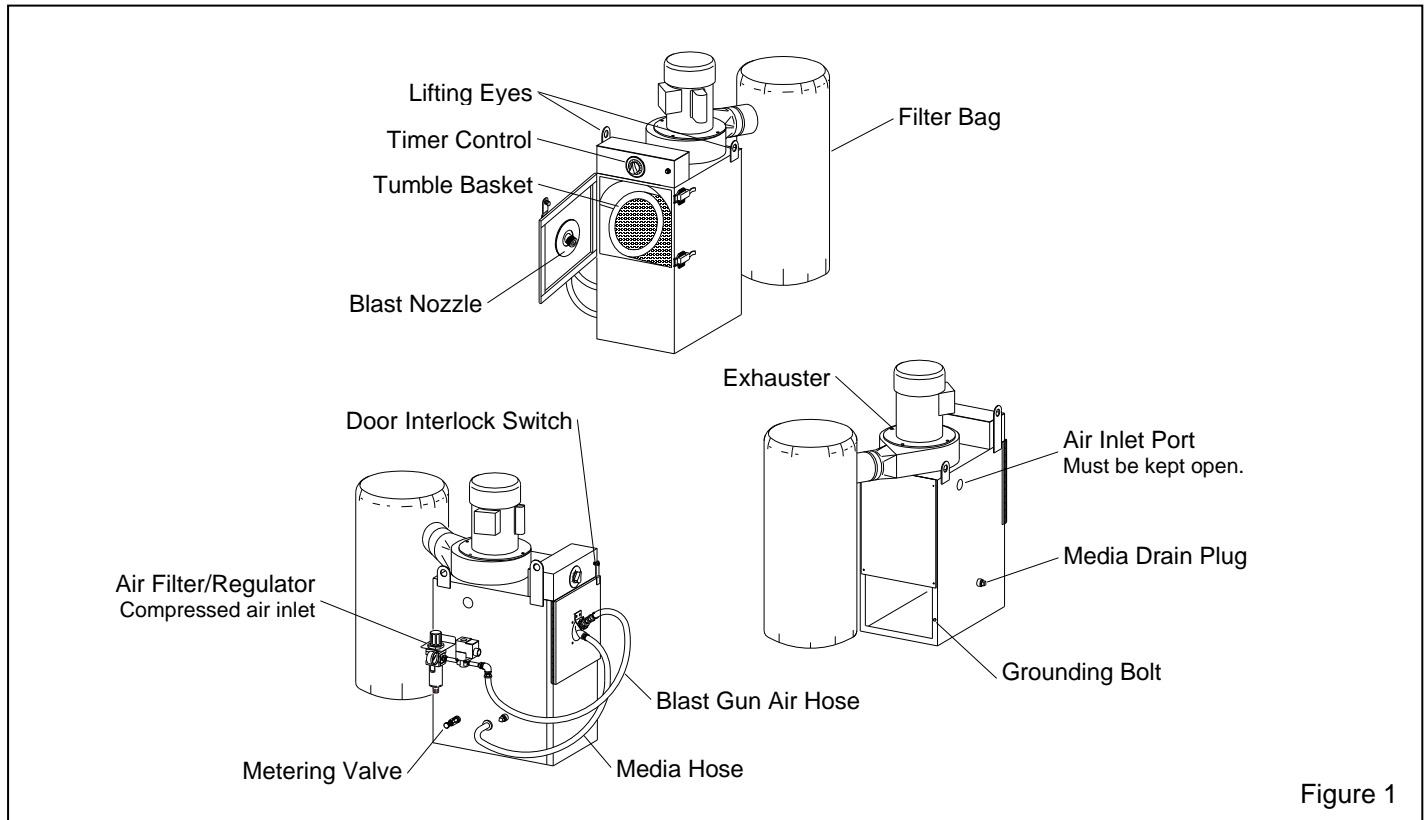

Figure 1
**1.4.1** The DCM-161 tumble cabinet blasts small batches of parts using a fixed nozzle and rotating basket. Refer to Figure 1 for arrangement and callouts of primary components.